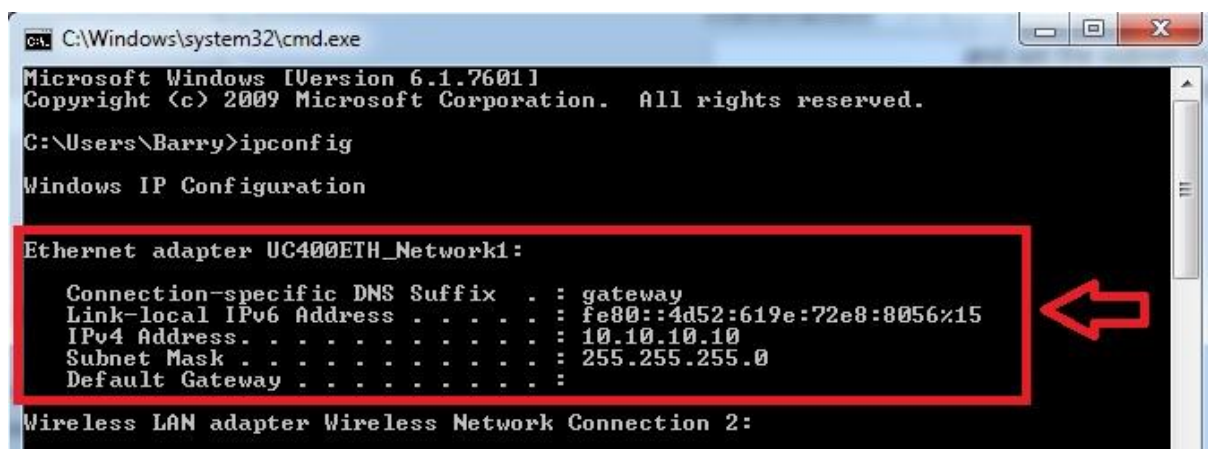

Figure 19: ipconfig settings confirmation
- 8- To verify that the settings got validated open a command window with typing 'cmd' into the start menu and in the command window type 'ipconfig'. The result should look like as on the following image in Figure 19. Please note that the Ipv4 address of our adapter got the 10.10.10.10 value with a subnet mask of 255.255.255.0 value.